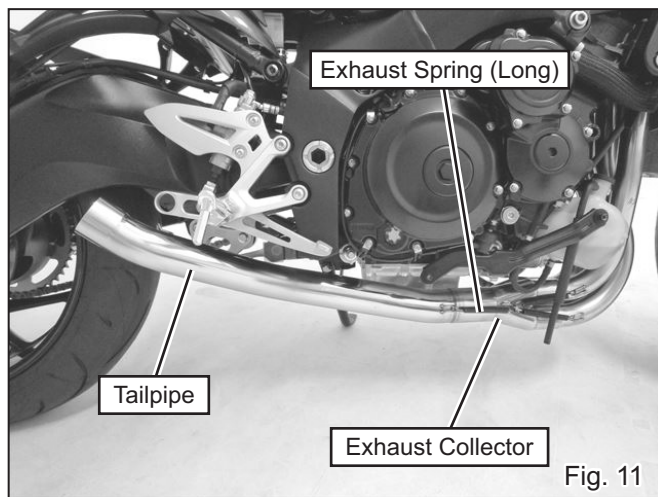

Fig. 11
- 13) Insert Tailpipe to Exhaust Collector and install Exhaust Spring (Long). (See Fig. 11)